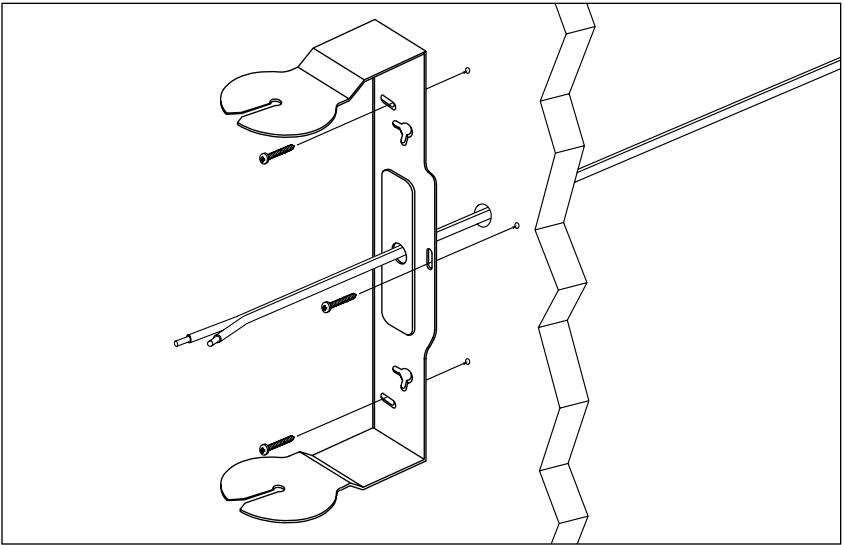

Figure 10. Mounting the Bracket
3. Mark the locations of the three oval-shaped screw holes (see **Figure 10**). Be sure to use all of the holes.